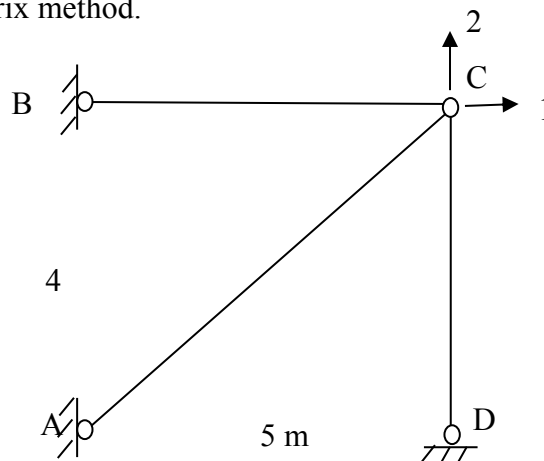

Fig 4
- b) Analyse the truss shown in Fig. 4 (with active global coordinates, as shown) and find the joint displacements, support reactions and bar forces. The truss is subjected to direct loads $F_1 = 50 \text{ kN}$; $F_2 = 30 \text{ kN}$, and a lack of fit due to bar AC being too long by 5 mm. Assume all bars to have same axial rigidity $AE = 6000 \text{ kN}$. Use stiffness matrix method. (10)